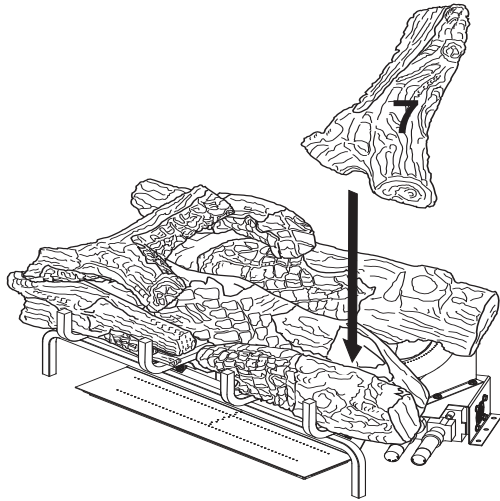

Figure 34 - Installing Log # 7
7. Place the right crossover log (#7) on top of the middle log and rear log as shown in **Figure 34, Page 20**.